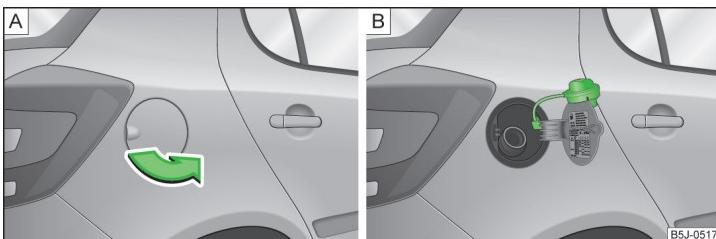

Fig. 123 Open tank lid / tank cap
The correct grades of fuel for your vehicle are stated on a sticker affixed to the inside of the fuel filler flap » Fig. 123 on page 137 - B.
- Open the fuel filler flap with one hand » Fig. 123 - A.
- Unscrew the filler cap by turning it anticlockwise and clip the cap on the top of the fuel filler flap » Fig. 123 - B.